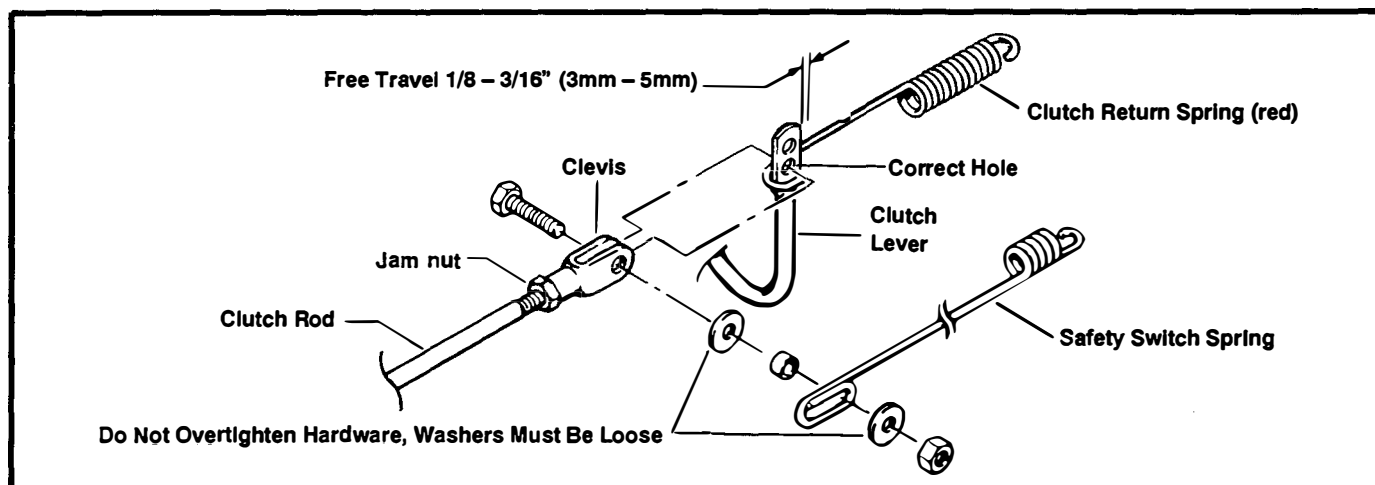

Figure 5.
- Move clutch lever by hand, lever should have 1/16 to 1/8" (1.5 to 3 mm) free travel, measured at the end of the clutch lever. See Figure 5.
1. Disconnect the clevis on the clutch rod from the clutch lever. (Red clutch spring is still disconnected) See Figure 5.
4. Reconnect the clevis to the clutch lever (including the safety switch spring). **CAUTION:** Do not overtighten clevis hardware, washers should be loose. Recheck free travel of lever. Reconnect the red clutch spring. Tighten the clevis jam nut. See Figure 5.